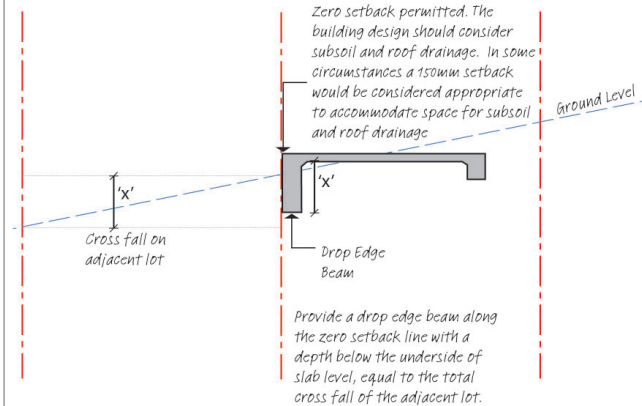
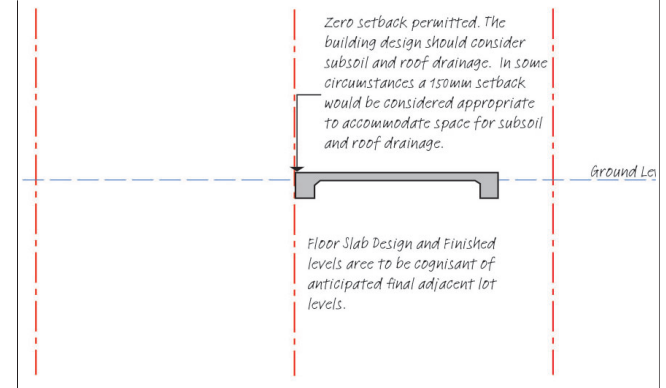

FIGURE 15: Zero Lot Line Construction Type 2
FIGURE 16: Zero Lot Line Construction Type 3
- be 0mm if site conditions and building design permit (Figure 15 and Figure 16);